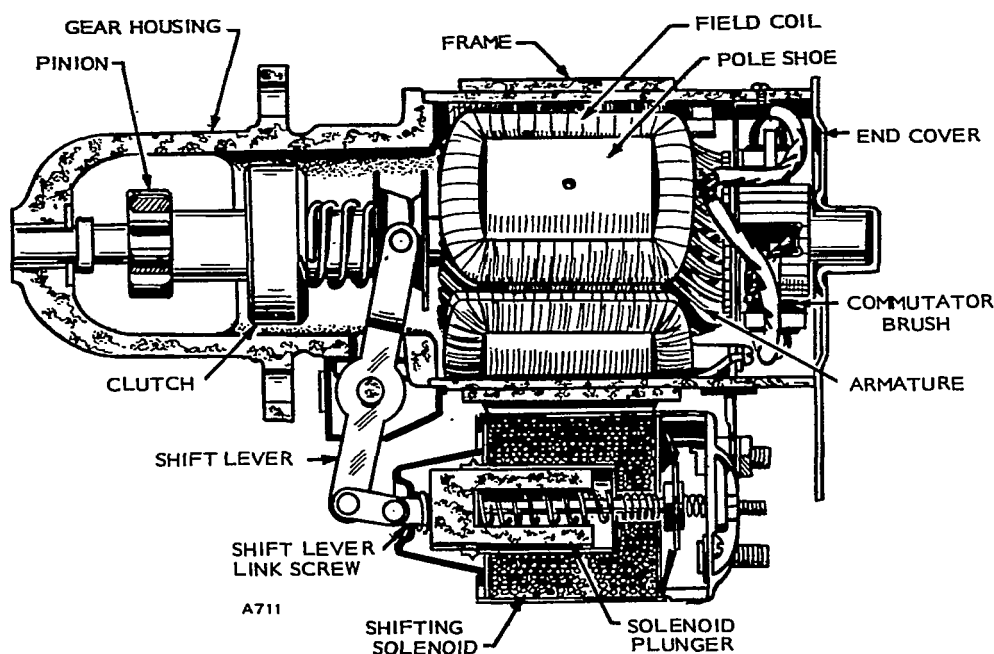

FIGURE 45. STARTING MOTOR
1. Remove connections to controls and battery at shifting solenoid. See Figure 45.